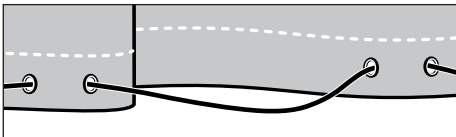
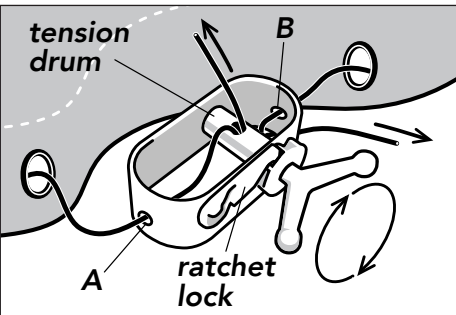

figure 3
figure 4
5. Lace the vinyl coated cable (included) through the grommets around the entire pool. (Figure 3) To lock the cable, insert one end through opening A and the other through opening B of the winch/ ratchet (included). Bring both ends through the opening in the tension drum from opposite directions. (Figure 4) Pull ends through until the cable appears reasonably taut around the pool.